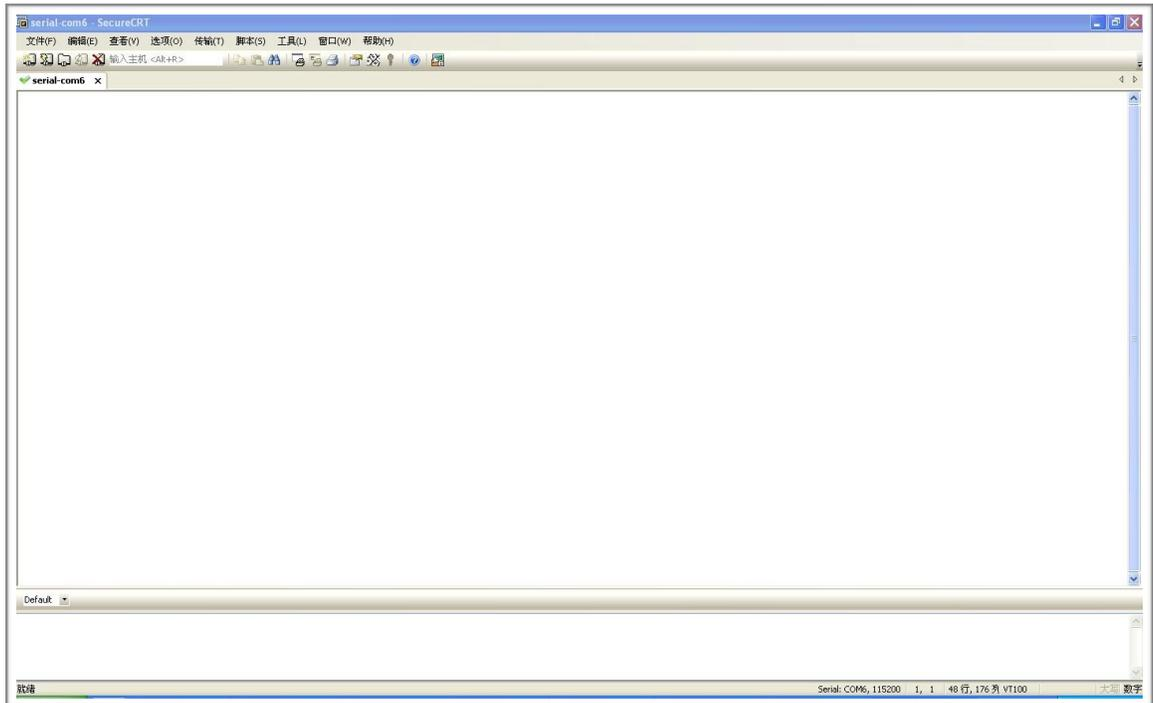

Figure 3-4. A New Session “serial-com6”
4. Click “**Connect**”. If it shows “*serial-com6*”, then the connection is fully completed, as shown in figure 3-4.